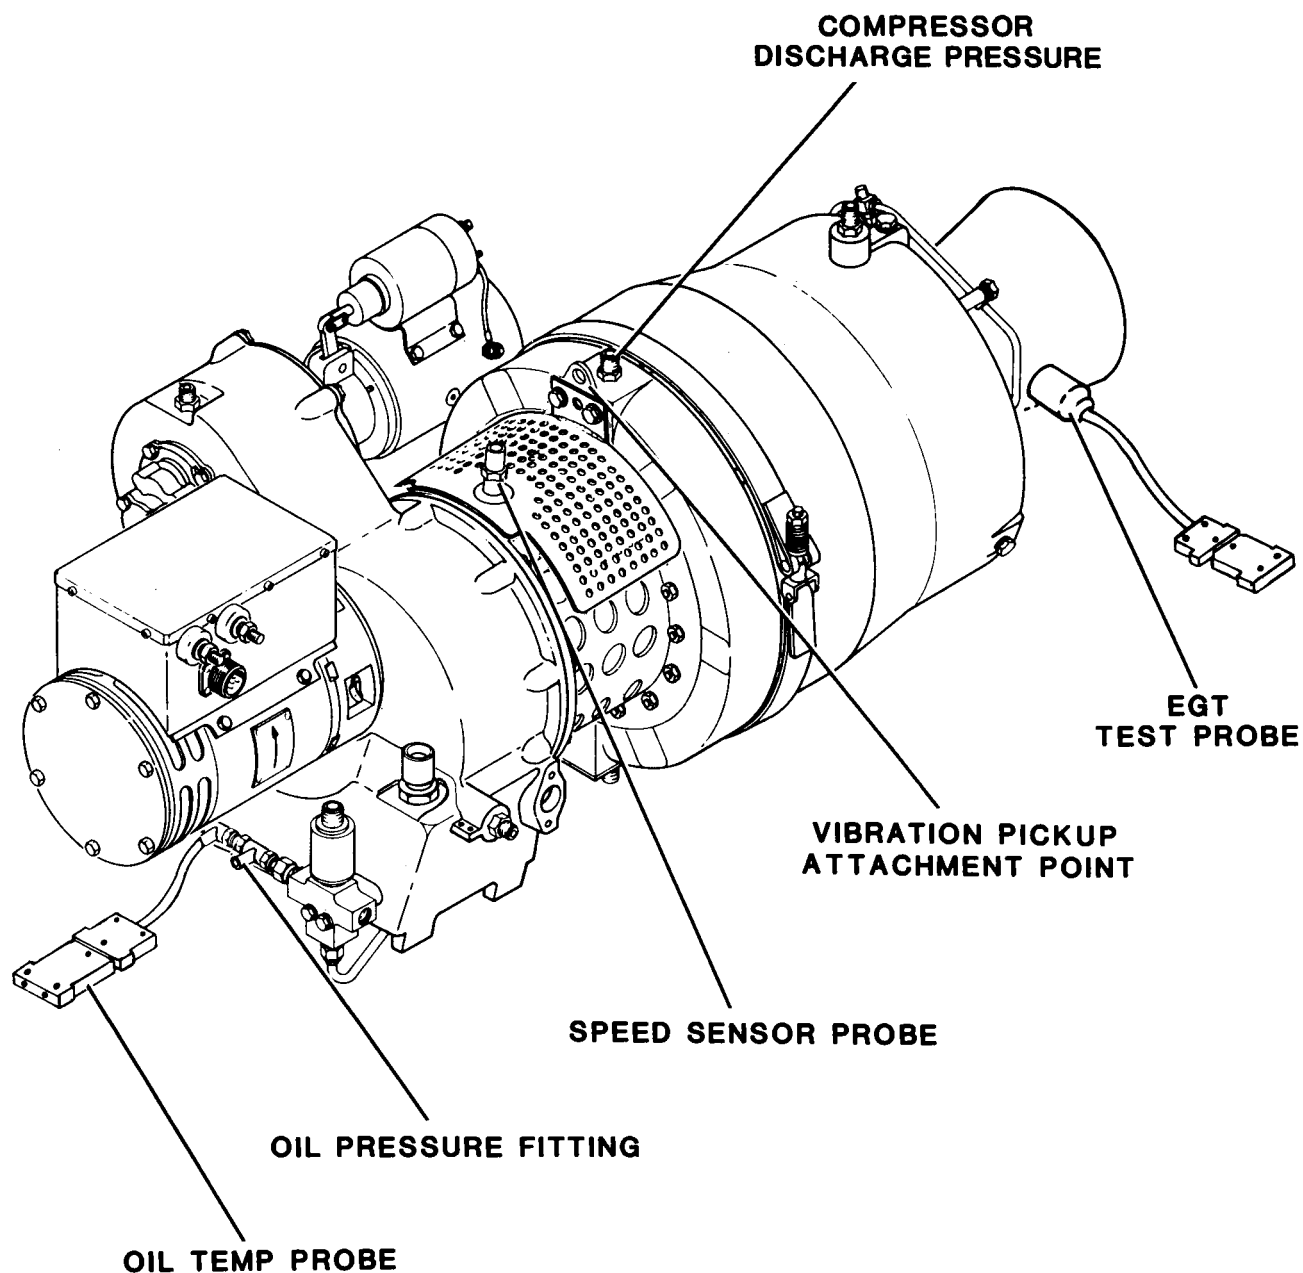

Figure 13-1. Test Equipment Installation
(2) Engine vibration amplitudes exceed 0.3 mil at any rotor frequency from 0 -1500 Hz.
(3) Oil pressure falls below 17 psi (117 kPa) or exceeds 35 psi (241 kPa).
d. Install test probes and vibration pickups in accordance with figure 13-1.
(4) Oil temperature exceeds 250°F (121.1 °C).
(5) Fuel flow or turbine exhaust temperature exceeds normal limits.
(6) Acceleration time from initiation of cranking to rated speed is longer than 30 seconds.